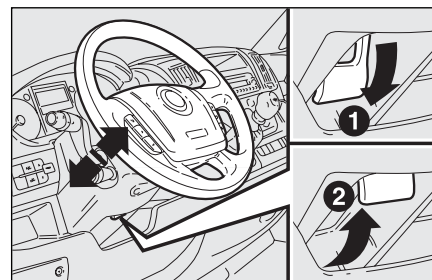

fig. 32
- ☐ release the lever **A**-fig. 32 pulling it towards the steering wheel (position 2).